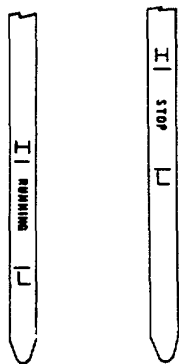

Fig. 7-1. (V40726) Dipstick markings
5. Insert dipstick all the way into tube. Remove dipstick and mark low oil level indicated. Mark should be 0.010 inch [0.3 mm] deep. Stamp (electric etch on spring steel) letter "L" immediately above mark (Fig. 7-1). Do not use a chisel for marking, or stamp too deep. This may cause dipstick to break. Cut excess length off dipstick leaving minimum of 1/2 inch [12.70 mm] below low level mark.
7. Mark opposite side of dipstick (if desired) for running levels (Fig. 7-1). Running levels provide equivalent readings to static levels with engine running at low idle (550-25 RPM). Add running level marks with oil supply, low and high, as stated previously.